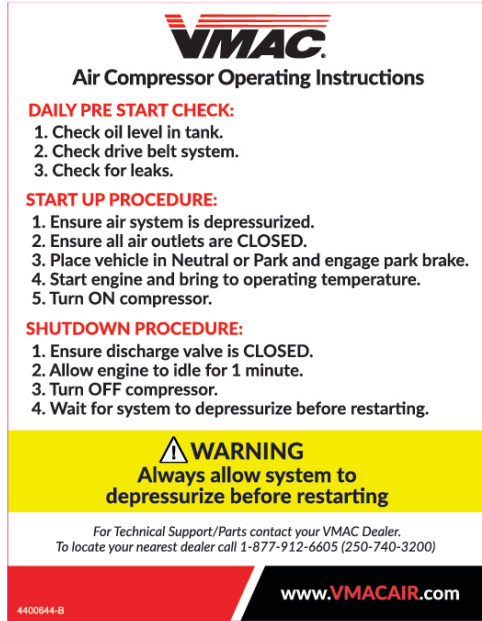

Figure 65 — Operating Instruction decal
- Affix the safety and operational instruction decal in an obvious location so that it can be seen by vehicle operators. A good spot for this is usually on the inside of the door or on the panel underneath the steering wheel (Figure 65).